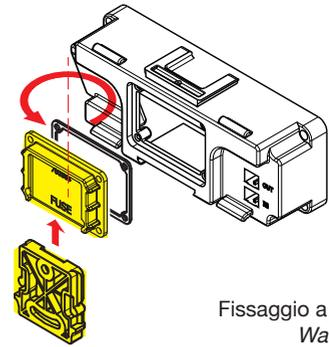

Fig.4
- Box fixed to the wall (Fig.4)
- box fissato a parete (Fig.4)